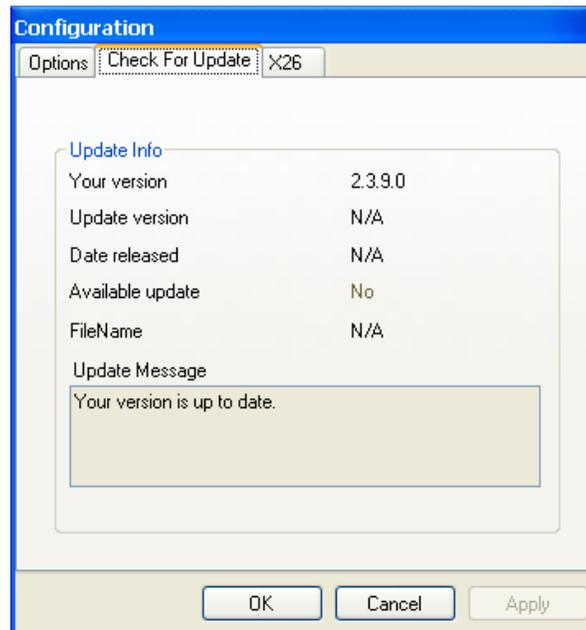

Figure 30
2. Click the **Check for Update** tab. If any updates are available, the box will display the word **Yes** in the **Available update** section (Figure 30). (This feature requires a valid internet connection.)